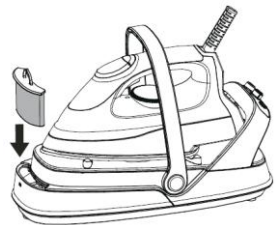

Fig. 9
4. Replace the anti-lime filter **3** in the hole of the water tank (Fig.9).